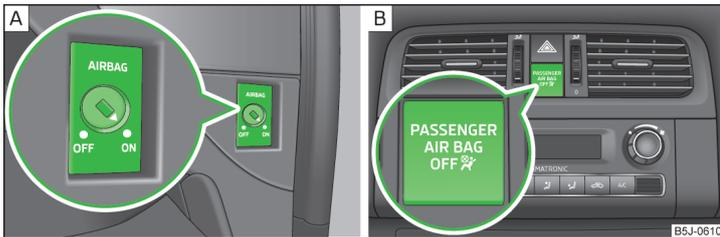

Fig. 12 Key-operated switch for the front passenger airbag / warning light for front seat passenger airbag deactivation
- The warning light **OFF**  » Fig. 12 on page 21 - B comes on after the ignition has been switched on.
- Use the key to turn the slot of the key switch carefully into the position **OFF** » Fig. 12 - **A**.
- Check that the warning light **OFF**  under the text **PASSENGER AIR BAG** » Fig. 12 - **B** lights up after the ignition is switched on.
- Use the key to turn the slot of the key switch carefully into the position **ON** » Fig. 12 - **A**.